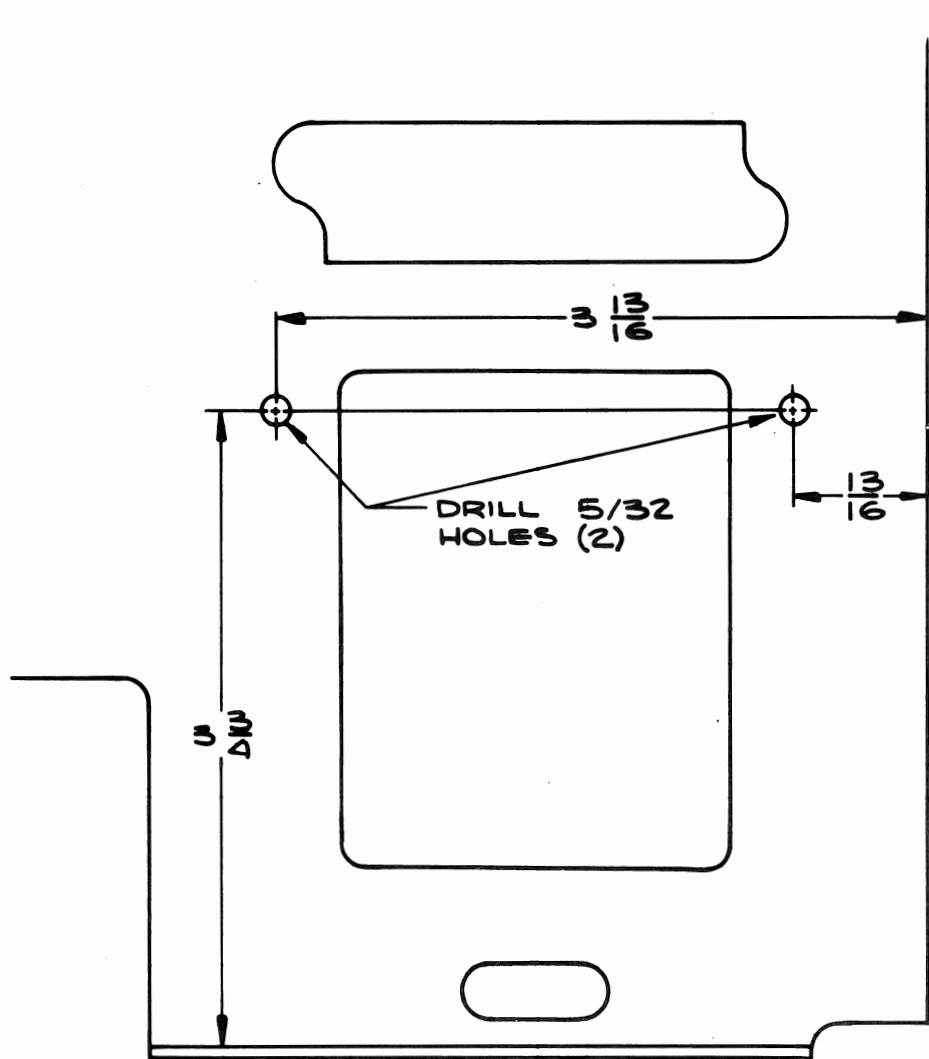

Fig. 4
- ( ) 1. Drill two 5/32 in. holes in the bulkhead, at the rear of the right plug-in compartment, as shown in Fig. 4.